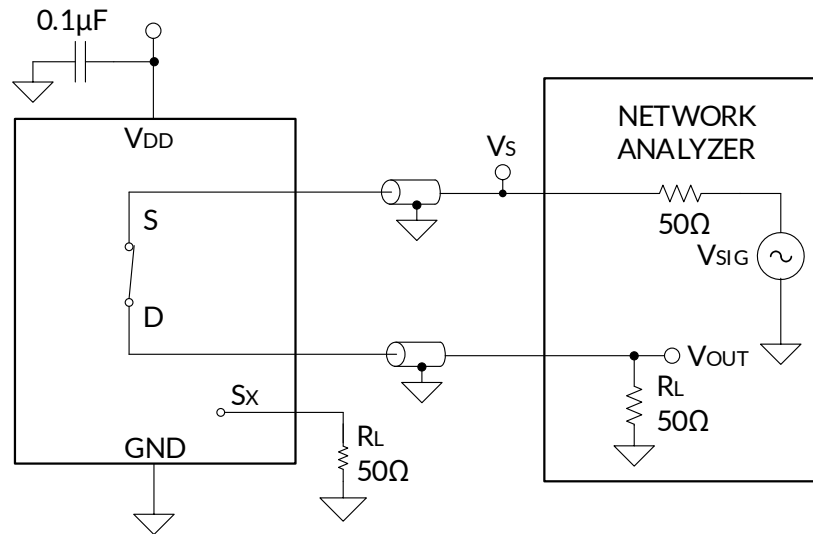

Figure 20. Bandwidth Measurement Setup
Bandwidth is defined as the range of frequencies that are attenuated by less than 3 dB when the input is applied to the source pin (Sx) of an on-channel, and the output is measured at the drain pin (D) of the device. Figure 20 shows the setup used to measure bandwidth.